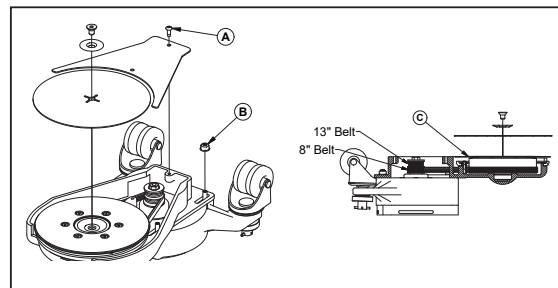

Figure 4
2. With a Phillips screwdriver, remove the two screws "A" securing the belt guard. Remove the belt guard. (Figure 4)
3. With a 7/16" socket, remove the four nuts "B" securing the head attachment. (Figure 4)
1. Place the head on the machine, making sure the belt is placed around the motor pulley. Position the belt in the lower-most grooves, (closest to the motor), for the 8" extension. Position the belt in the upper-most grooves, (furthest away from the motor), for the 13" extension. (Figure 4)